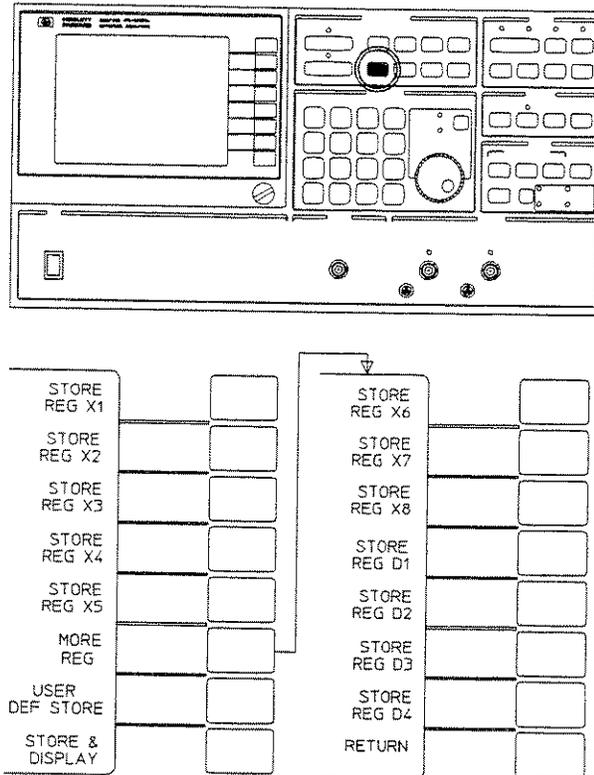

Figure 4-51
**STORE DATA** is a hardkey in the DISPLAY FORMAT front panel section used to display the menu of softkeys shown in figure 4-51. These softkeys may be used to store a trace as it is specified by the [ INPUT ] definition, store a trace defined by the user, or store and compare. The trace stored is independent of the active display function. The data stored is complex trace data identical to what is stored in trace memory registers R and A (and B for Option 002) when a measurement is taken.